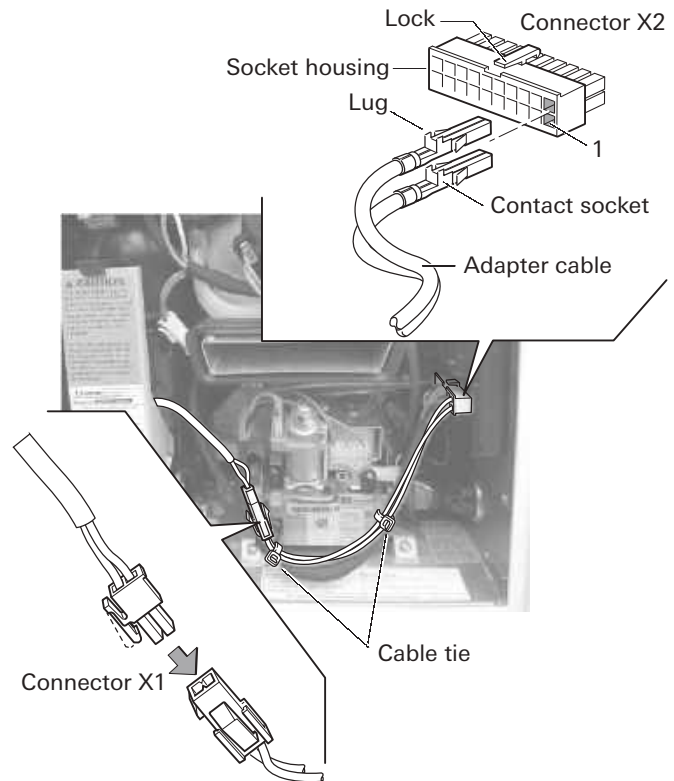

Fig. 5
- During installation, you must align the contact sockets as shown in Figure 5.
2. Slide the contact sockets (see Figure 5) into the socket housing (openings 1 and 11) until they lock in place. You do not have to bother about the plus and minus poles.
5. Lay the adapter cable and fix it in place with the 2 cable ties, as shown in Figure 5.
6. Connect the connection cable to the adapter cable (see Figure 5).
6. You may have to connect the connection cable to the adapter cable (see Figure 5).